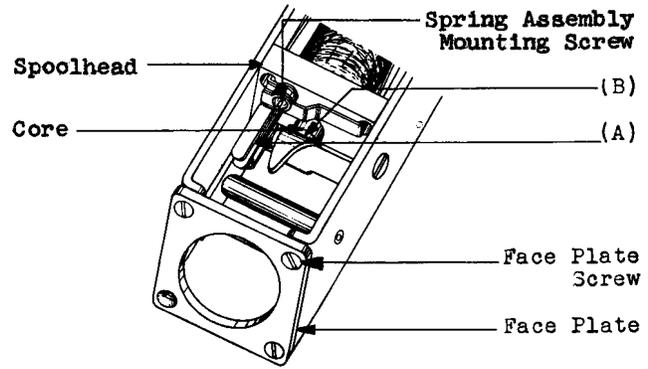

Fig. 4 — Armature Airgap
2.06 Flexible Contact Spring Position: Fig. 4(A) — With the armature unoperated, the flexible contact spring shall rest on the stop spring, at least at the end of the stop spring that is nearest the contact.
2.09 Contact Follow: Fig. 4(A) — With the armature operated, there shall be a perceptible clearance between the upper flexible contact spring and its stop spring, at least at the end of the stop spring that is nearest the contact.
***2.10 Armature Airgap:** Fig. 4(B) — The armature shall not touch the face of the core as the relay operates electrically.